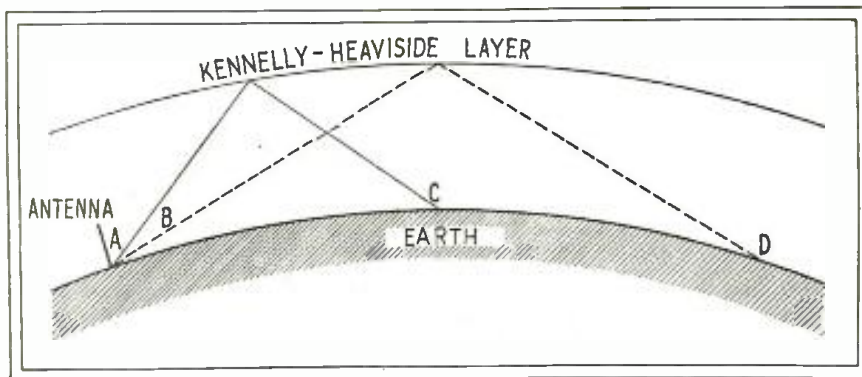

FIG. 2. ILLUSTRATING THE "SKIP-DISTANCE" EFFECT, AS EXPLAINED IN THE TEXT
Since the absorption of extremely short wavelengths is negligible in the Kennelly-Heaviside layer, and the skip distance is long, as shown in Fig. 1, strong signals should be received from stations located at great distances. The line (A) in Fig. 2 shows the possible angle of radiation from a certain type of antenna adjusted to 25 meters. The primary skip distance depends entirely on the angle of radiation and the height of the Kennelly-Heaviside layer. It is possible, by employing plane antennæ and reflectors, to concentrate the antenna radiation at an angle most advantageous for reception at a given distance. For extreme distances, it would be possible to control the radiation angle to increase the skip distance, and thus increase the signal strength from three to four times at the receiving station. The line B shows how the radiation angle may be changed so as to reach point D on the earth. Note that the 40° angle would give strong signals at C and diminish in strength toward D. Radiation angle B would skip over position C and produce strong signals at position D.